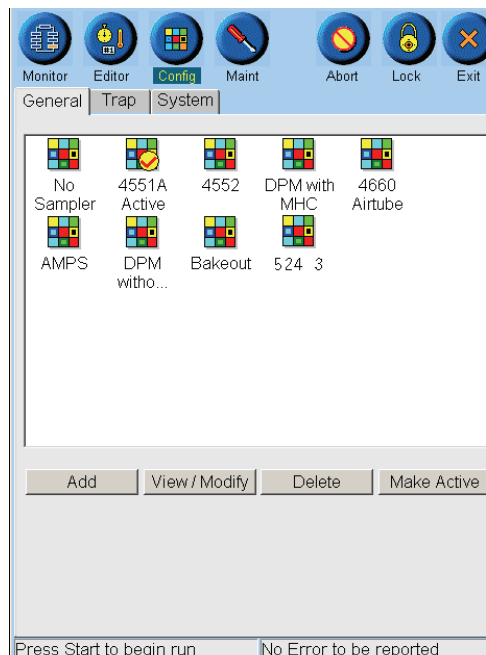

Figure 5.2. General configuration screen
1. Press the **Config** icon to access the General configuration screen (Figure 5.2).